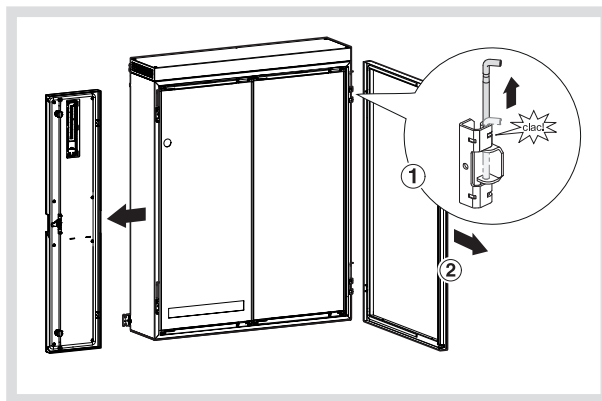

Figure 10: Door removal
- Push up the door split pins to remove the door. Once the energy storage system has been installed, replace the doors and fix them by pushing down the door split pins (Figure 10).